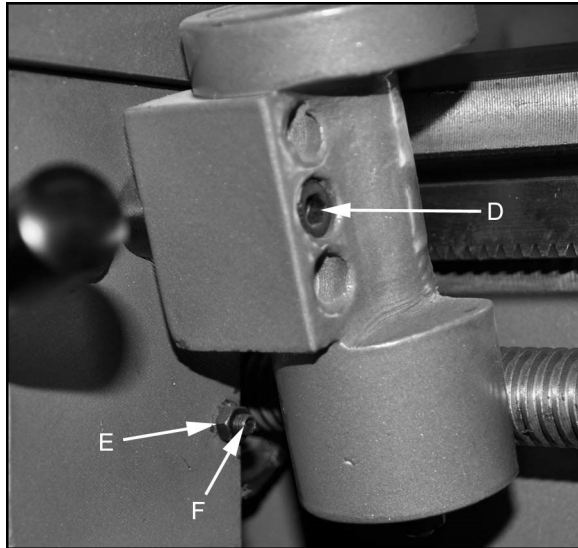

Figure 11-2
1. Remove thread dial assembly by unscrewing the screw (D, Figure 11-2).
2. Loosen three hex nuts (E, Figure 11-2) found on side of apron, and turn three set screws (F, Figure 11-2) equally with a hex wrench.